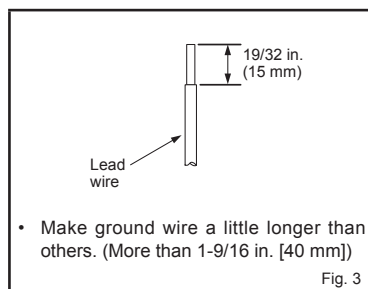

Fig. 3
- 6) Process the end of ground wire (Fig. 3). Connect it to the ground terminal of electrical parts box.
- 7) Process the end of indoor/outdoor unit connecting wire (A) (Fig. 3). Attach it to the terminal block. Be careful not to make mis-wiring. Attach the wire to the terminal block securely so that its core cannot be seen, and no external force affects the connecting section of the terminal block.
- Put the drain cap into the section to which the drain hose is to be attached at the rear of the indoor unit. (Fig. 3)
- When connecting the drain hose to a hard vinyl chloride pipe, be sure to insert it securely into the pipe. (Fig. 3)
- 2) Remove all burrs from the cut section of the pipe, ensuring that precautions are taken to avoid getting metal shavings into the piping. (Fig. 3)